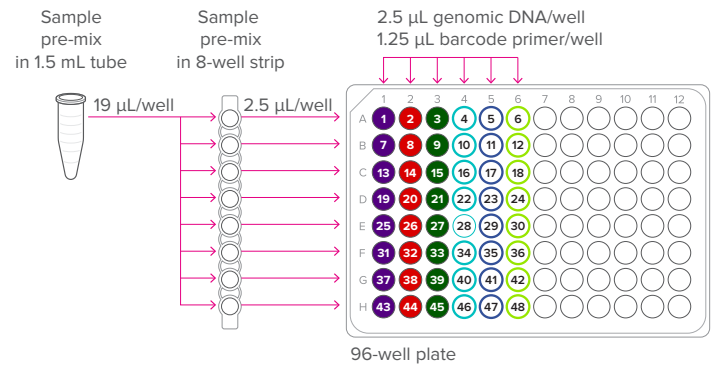

Figure 3. Preparation of sample mixes
- 4 Pipet 19 μL of the sample pre-mix into each well of a new 8-well strip (see Figure 3).
- 2 In a DNA sample hood, prepare the sample mixes by pipetting the components shown in Table 5 into each well of a new 96-well plate. Pipet reagents and samples according to the diagram shown in Figure 3. Use an 8-channel pipette to transfer the sample pre-mix from the 8-well strip.